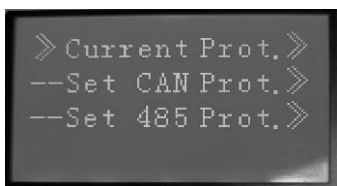
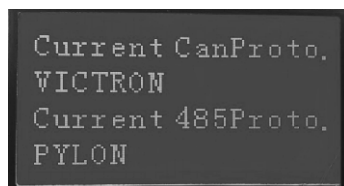
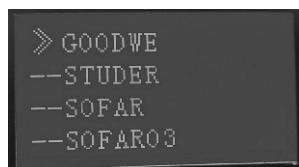
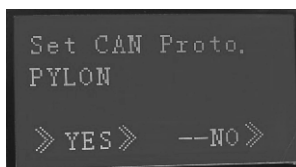

Figure 1-1
Figure 1-2
Figure 1-2.1
Figure 1-2.2
1) Under the main interface shown in Figure 1-1, select the down key and place the front cursor "》" "
in the "Para Setting" column. Enter key to enter as shown in Figure 1-1. At this time, place the front cursor "》" "in the "Current Prot" column. Enter key to enter as shown in Figure 1-2 to view the current default communication protocol.
Under the interface shown in Figure 1-1, select downwards with the Down key, place the front cursor "》" "in the "Set CAN Prot" column, and press the Enter key to enter Figure 1-2.1.
In the interface of Figure 1-2.1, the communication protocol for the requirement can be selected by pressing the Down key. Place the cursor "》" "in the corresponding column of the protocol name for the requirement, and press the Enter key Enter the protocol settings, as shown in Figure 1-2.2. At this time, select "PYLON" to set the communication protocol, and press the Enter key to select "YES" to enter the successful setting interface, as shown in Figure 1-2.3. Press the ESC key to return to the previous interface.
Under the interface shown in Figure 1-1, select downwards using the Down key, place the front cursor "》" "in the "Set 485 Prot" column, and enter the Enter key to set the corresponding RS485 communication protocol. The operation steps are the same as setting the CAN communication protocol.